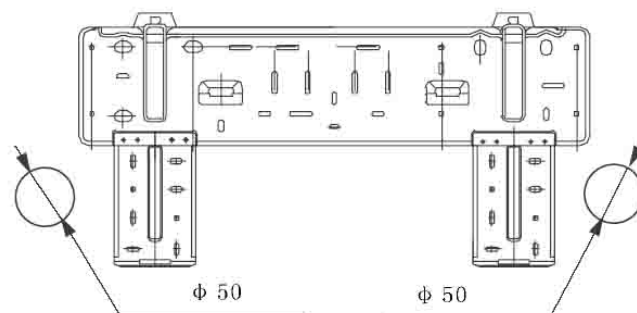

Fig.11-1
- After determining the location of hole for auxiliary pipe as shown in Fig.11-1, drill a hole declined outward (φ 50).